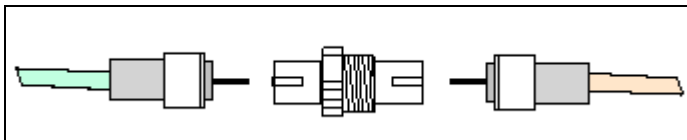

Figure10: Connecting TX and RX Fibers with Fiber Splice
4. Connect the ends into the fiber splice (Daktronics part# P-1197), as shown in **Figure 10**.